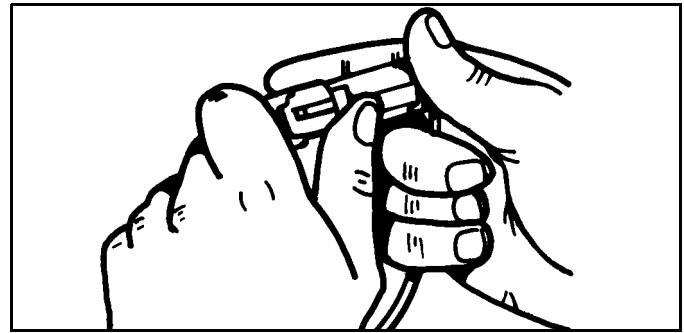

Figure 1-4
1. Open connector body. (See Figure 1-4)